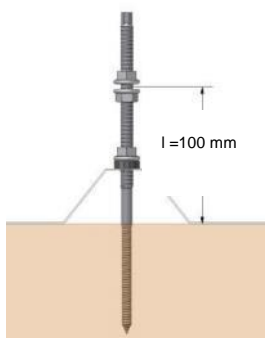

Figure 54: Fixing distance
- For stress reasons, the distance to the roofing must be kept as small as possible, see Figure 54: Fixing distance.